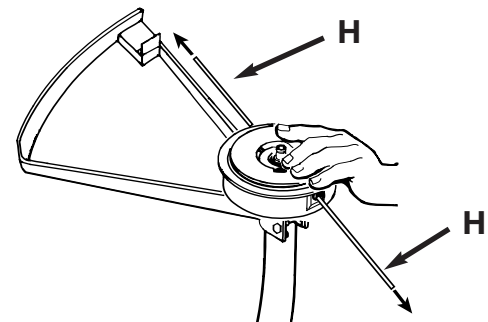

Fig. 13
9. Once the spool is in place, apply pressure on the spool compressing the spring. Pull each end of the line (H) sharply to unlock the line from the slots (Figure 13).